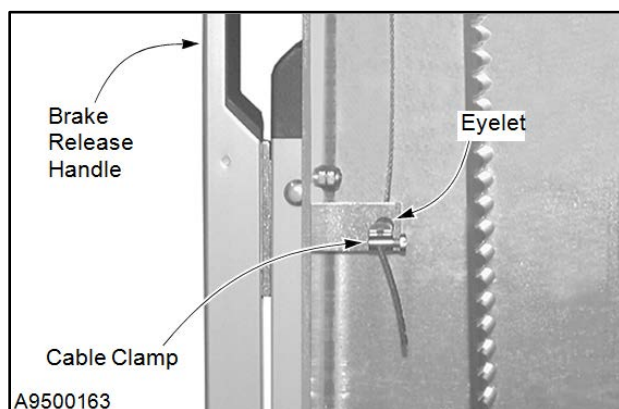

Figure 32
3. Make sure the brake release handle is in good working order and securely fastened to the left side column. Replace any missing or damaged hard-ware as required. (See Figure 32.)